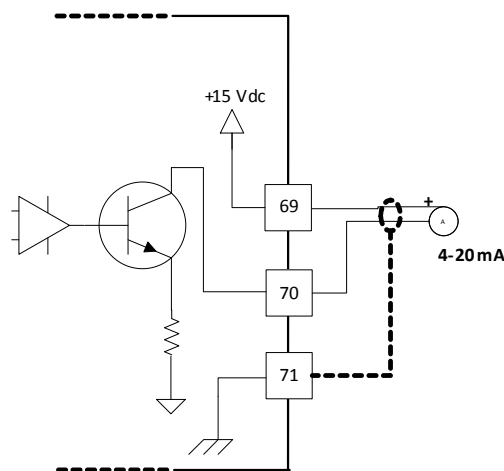

Figure 3-15. Wiring Example—Analog Output Interface to the SmartCore CPU A5200 Board
- Refer to Figure 3-15 for analog output wiring.